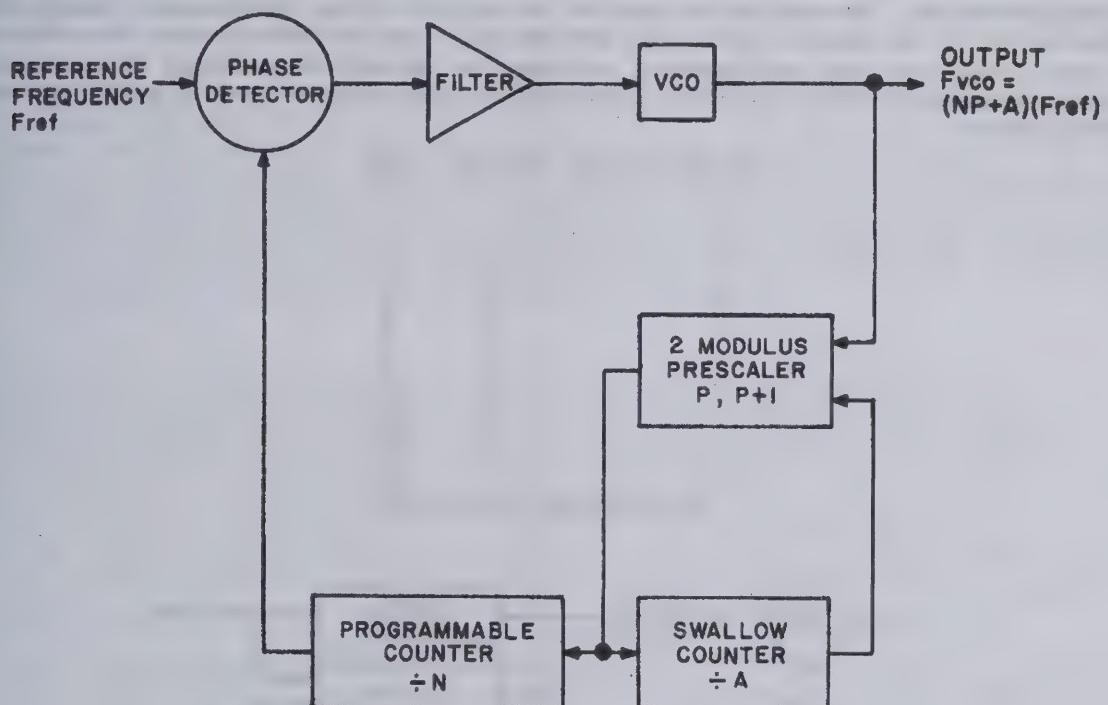

Figure 3-7. Two-Modulus Prescaling in the Phase Lock Loop
A variation of the basic phase lock loop, shown in Figure 3-7, is utilized in the 1st and 2nd LO Synthesizers. The divider portion consists of a two modulus prescaler and two programmable counters. The two-modulus (divider) prescaler accepts the output from the VCO and divides it by one of two numbers ( $P$  or  $P+1$ ). The prescaler in the 1st LO is a divide-by-50/51 counter and the 2nd LO prescaler is a divide-by-100/101 counter. The swallow counter controls the number of times the prescaler divides by  $P+1$ . The programmable counter counts the number of pulses from the prescaler. Totally, these three components provide for coarse (N) and fine (A) tuning of the VCO.